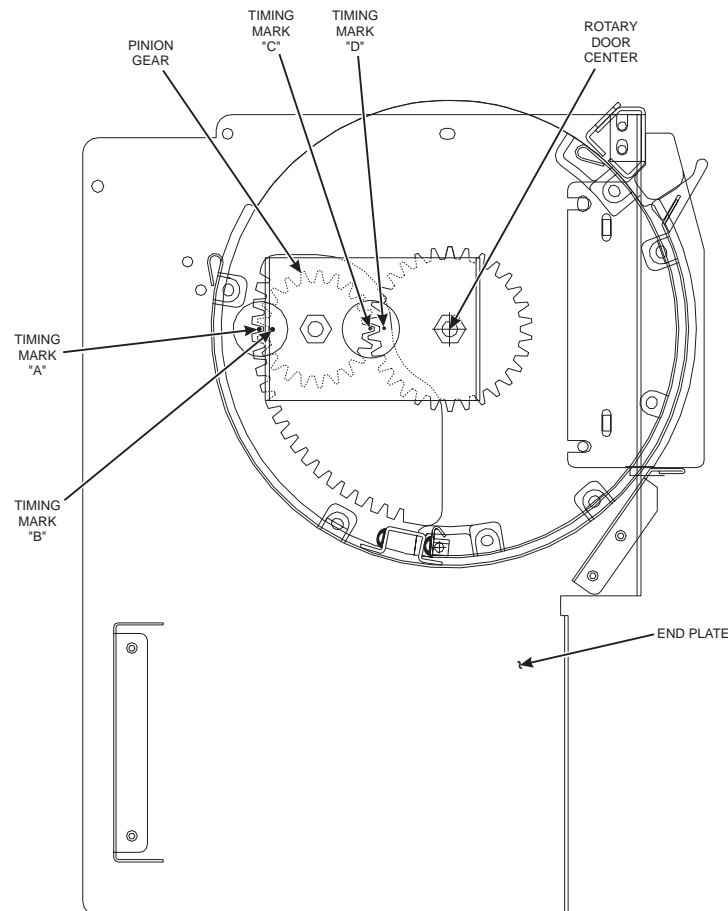

Figure 33
1. Remove the right end plate (See figure 33).